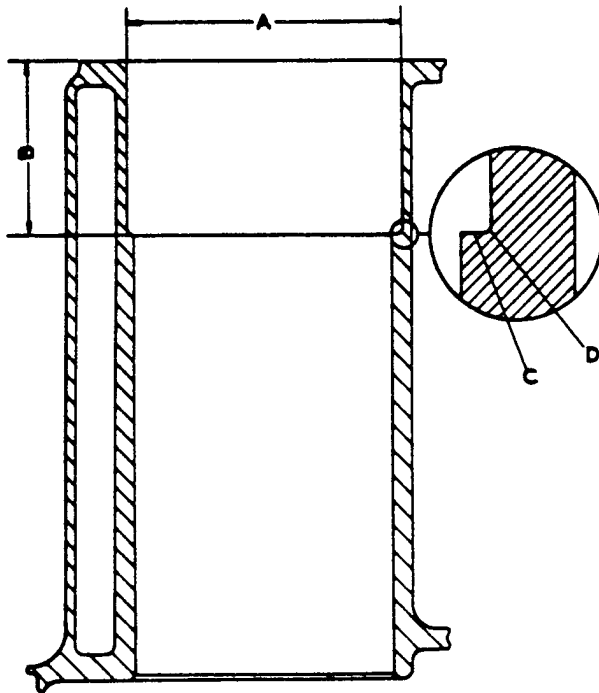
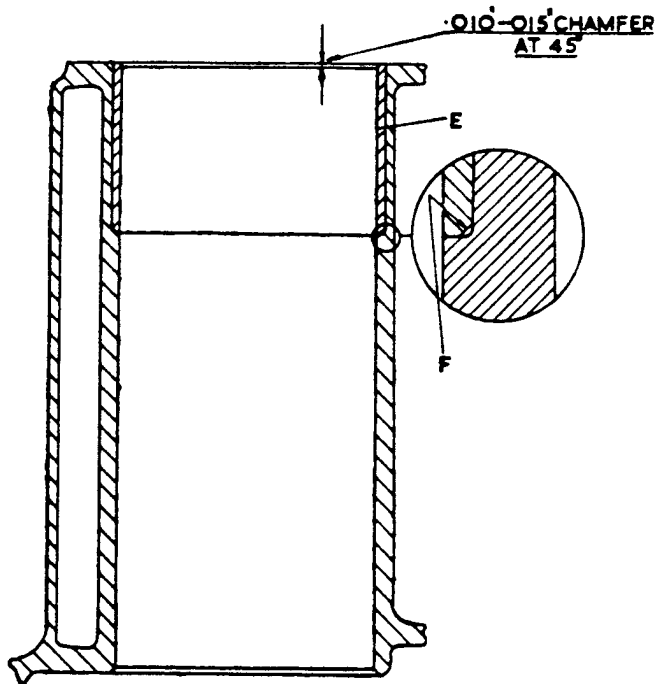

FIG.1. SECTION - CYLINDER-SHOWING COUNTERBORE.
FIG.2. SECTION - CYLINDER - SHORT LINER IN POSITION.
cylinder bore. Next, adjust the boring cutter so that the first cut is heavy enough to get underneath the original chromium plating and counterbore the cylinder to a depth of 2.245" to 2.250" (57.02 to 57.15 m/m). See 'B' Fig.1.
The bottom face, 'C' Fig.1, of the counterbore must be machined perfectly true. Any slight discrepancy on this end will cause a gap on one part of the "butt" joint.
- (v) Before pressing in the liners, ensure that the radius, 'D' Fig.1, is smaller than the chamfer ('F' Fig.2) on the lower end of the liners, so that there will be no interference at the butt joints when the liners are pressed fully home.
- (1) To assist in obtaining the required interference of .0025" to .0035" (.06 to .09 m/m) between the liner and the cylinder counterbore, 'A' Fig.1, the liner RE-6017, is colour coded (graded) in the bore as follows:-
NOTE: If, when measuring the diameter of a counterbore ('A' Fig.1), it exceeds 3.6265" (92.11 m/m), it will be necessary to fit an R-4610 oversize short liner. This liner is marked with white paint and has an external diameter of 3.631" to 3.632" (92.23 to 92.25 m/m), and one should be selected that will not allow an interference exceeding .004" (.1 m/m), or less than .0025" (.06 m/m).
- (ix) With a half-round scraper, cut a .010" to .015" (.25 to .38 m/m) chamfer at about 45° at the upper end of each liner, as shown in Fig.2.
- (ii) With a half-round scraper, cut a .010" to .015" (.25 to .38 m/m) chamfer at about 45° at the upper end of each liner as shown in Fig.2.
If short liners ('E' Fig.2) have not been incorporated (on chassis prior to B-144-DA), it will be necessary to counterbore the unaffected (un-scored) cylinders at their upper end and fit a short Bricrome liner, RE-6017; irrespective to fitting twin liners to one or more of the bores.
- Bore out the short liner in stages, until it has a wall thickness of not more than $.015'' (.38 \text{ m/m})$. This operation must be carefully carried out in order that the boring cutter does not contact the cylinder counterbore. As a guide when boring, it should be borne in mind that the external diameter of the liner (in position) is $3.625'' (92.07 \text{ m/m})$ i.e. the same diameter as the counterbore 'A' Fig.1. From the upper face of the cylinder block, the liner should be bored to a depth of $2.250''$ to $2.255'' (57.15$ to $57.27 \text{ m/m})$.
- (ix) With a half round scraper, cut a .010" to .015" (.25 to .38 m/m) chamfer at about 45° at the upper end of the liner/s as shown in Fig.2.